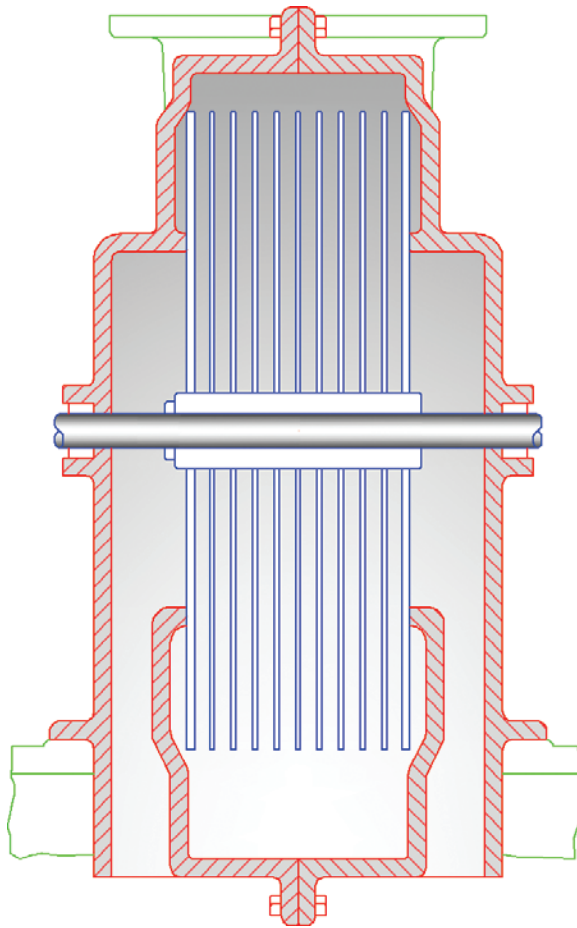

FIGURE 8.20 Adding a cylindrical gradient to the shaft
5. Type **GRADIENT**, and press Enter. Click a point in the center of the shaft to determine the boundary for a new gradient hatch. Select the GR_CYLIN pattern, set Angle to 90, and select Color 250 in the Gradient Color 1 drop-down. Click the Close Hatch Creation icon. Figure 8.20 shows the result.